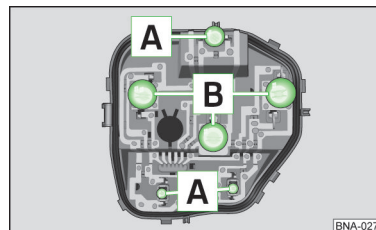

Fig. 116
- Remove the faulty bulb **A** » fig. 116 from the holder.